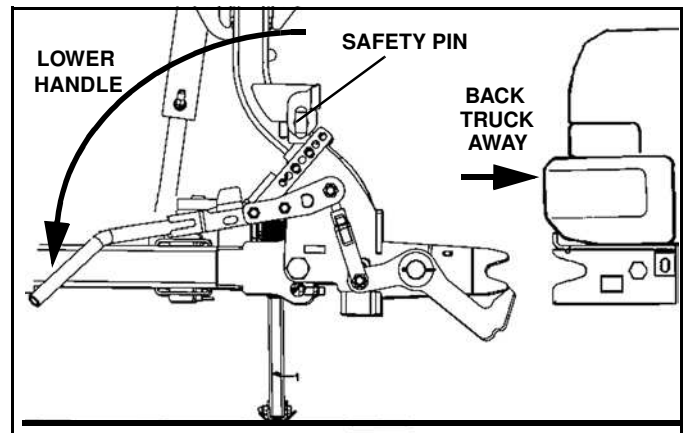

Figure 1-51
4. Pull safety pin on engagement handle to release and lower handle to disengage plow from truck. (See Figure 1-51).